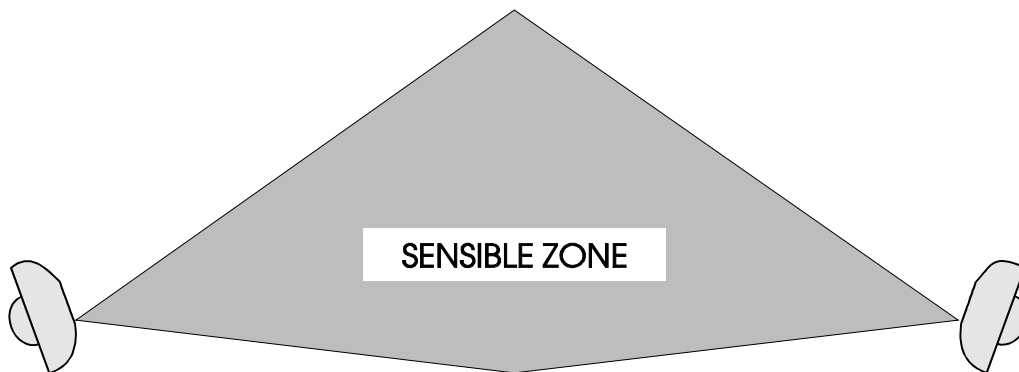

FIG. 5 - Sensible zone distortion for bad alignment
- **An imperfect alignment between transmitter and receiver** causes, a distortion of the shape of the protective field which is set up, as well as an obvious reduction of the signal received. This fact becomes clearly apparent when considering that the protection field is determined, in the first approximation, by the combination of the principal radiation lobes of the two antennae, which, if perfectly aligned, will establish a regular and symmetrical protection field in the two halves of the section, if badly aligned they will cause asymmetry and a more probable interception of obstacles (even though apparently outside the sensitive field). (FIG. 5)